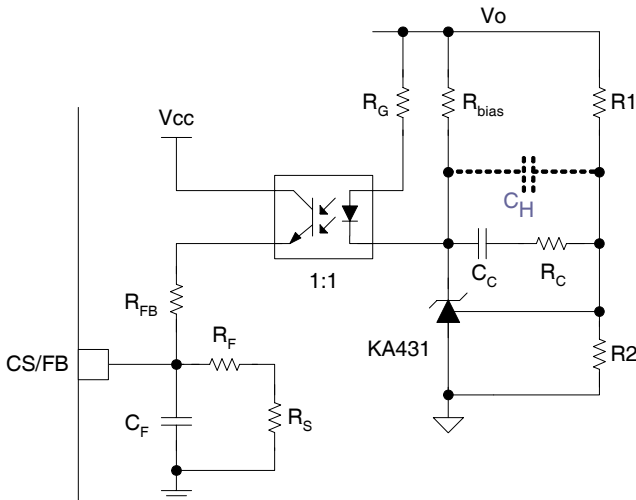

Figure 19. Output Voltage Compensation Circuit
The transfer function of the feedback compensation network shown in Fig. 19 is obtained by (8).
- (e) Place a compensator pole (f_{pc}) around $3f_c$. As shown in (6), the compensator pole is placed by the current sense RC filter, R_F and C_F . There can be some restriction choosing R_F and C_F values because of the RC filter's delay time. Then f_{pc} is placed at much higher frequency than $3f_c$. In that case, the high-frequency switching noise might not be filtered, causing system instability. If the RC filter is not enough as a compensator pole, C_H should be added, as shown in Fig. 19. The value of C_H should be around 1/10 of C_C . If there is no problem without C_H , C_H is not necessary.